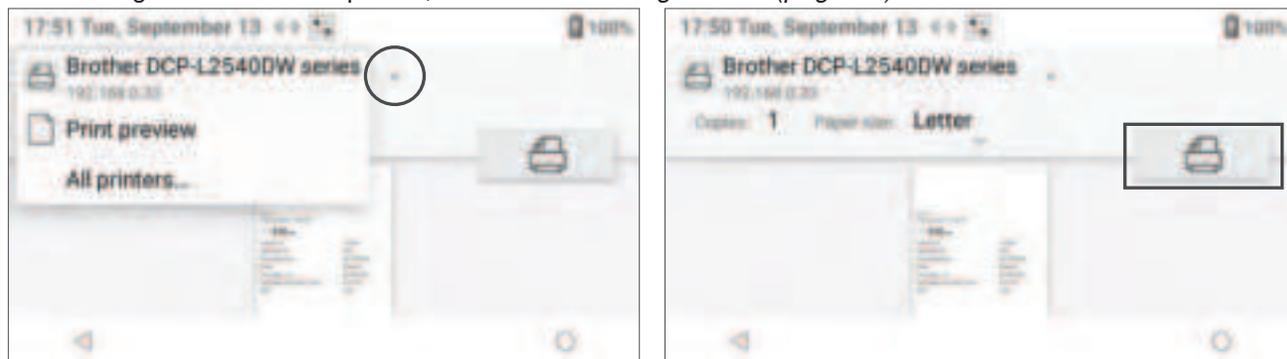

Figure 51: Print Patient Test Result
- **Print the test result** – Select  (Result Details) and then select  (Print). Select the desired printer from the drop-down list and then select  (Print) to print the test result (Figure 51). To configure the network printer, see “Printer Configuration” (page 68).